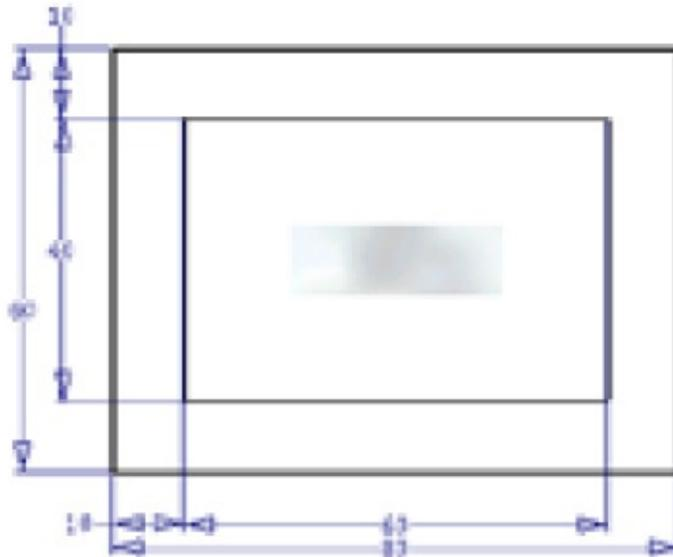

Figure 14-41 Modified dimensions of the cavity
2. Modify the dimensions of the cavity, as shown in Figure 14-41.